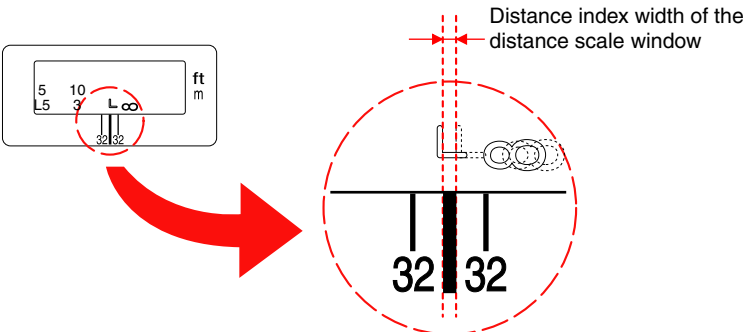

Fig. 4-4-5
- 5) Check that the infinity index of the distance scale is within the distance index width of the distance scale window as shown in the Fig. 4-4-5.